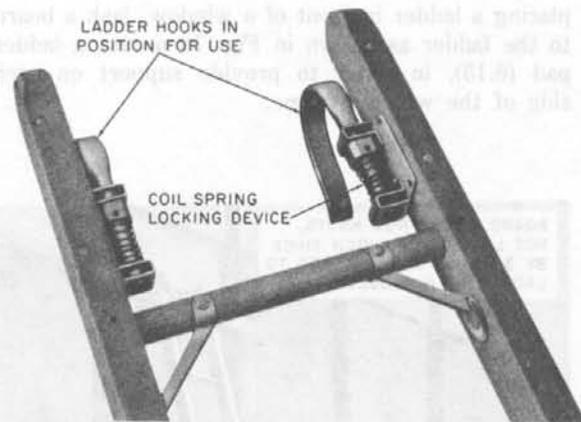

Fig. 11—Ladder Hooks
**6.10** The *ladder hooks* provided on C and D Extension Ladders are shown in Fig. 11.
4-11 The ladder hooks provided on C and D Extension ladders are shown in Fig. 11. When not in use, turn the hooks in between the rails. To rotate a hook, push it toward the lower end of the ladder, turn it 90 degrees, then release. The coil spring locks the hook in